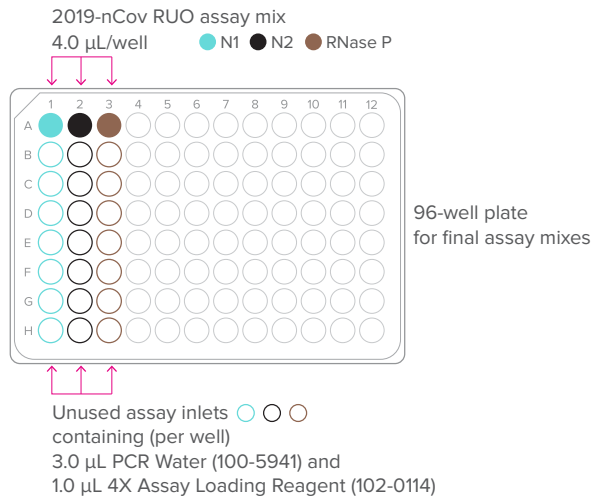
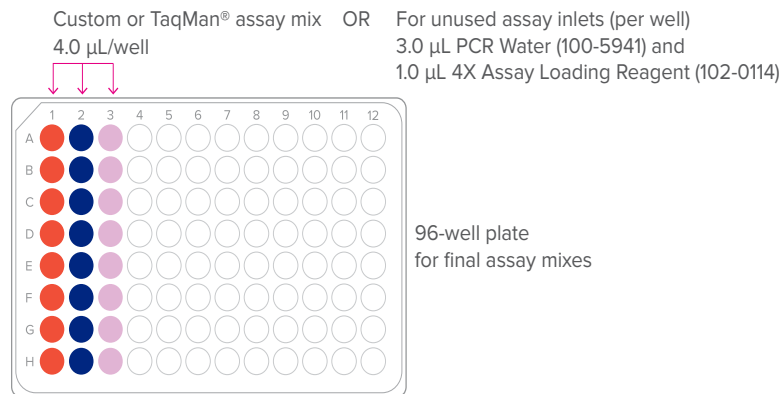

Figure 2. Final 2019-nCoV RUO assay mixes plate (per-well transfer volumes)
Figure 3. Final custom and TaqMan Gene Expression assay mixes plate (per-well transfer volumes)
- If using 2019-nCoV RUO assays (6.7 μ M primers, forward and reverse; 1.7 μ M probe), use components in Table 7 as shown in Figure 2 on page 12.
- If using custom assays (100 μ M primers, forward and reverse; 100 μ M probe), use components in Table 8 and shown in Figure 3 on page 12.
- If using 20X TaqMan[®] Gene Expression Assays (18 μ M primers, forward and reverse; 5 μ M probe), use components in Table 9 and shown in Figure 3 on page 12.
- Pipet 4.0 μL of each assay stock into the respective wells in a new 96-well plate as shown in Figure 2 (for 2019-nCoV RUO assays) or Figure 3 (for custom or TaqMan assays).